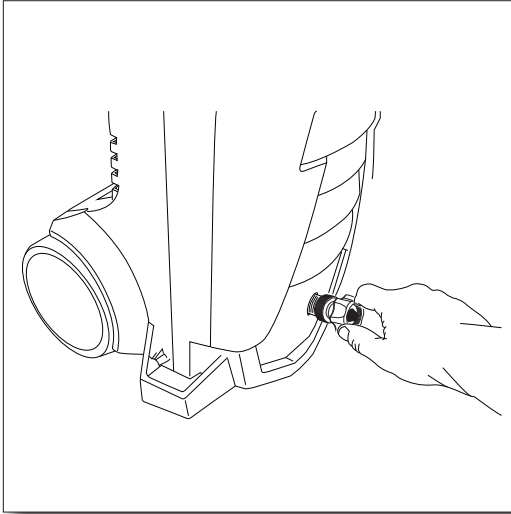

Fig. 14
- Attach the “silver” collar directly to the power washer water inlet and hand tighten. **(Fig. 14)**